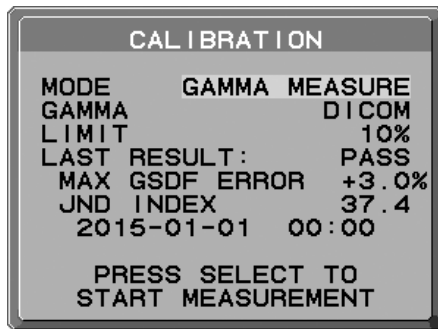

Figure D.1
2. Use "LEFT" or "RIGHT" to select GAMMA MEASURE in the MODE selection (**Figure D.1**).